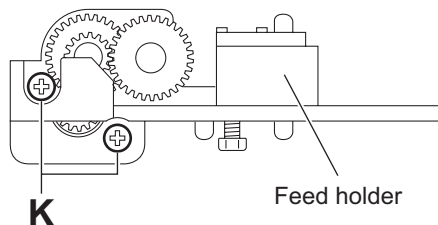

Fig.15
- (6) From the side of the feed holder, remove the two screws **K** attaching the feed motor. (See Fig.15.)